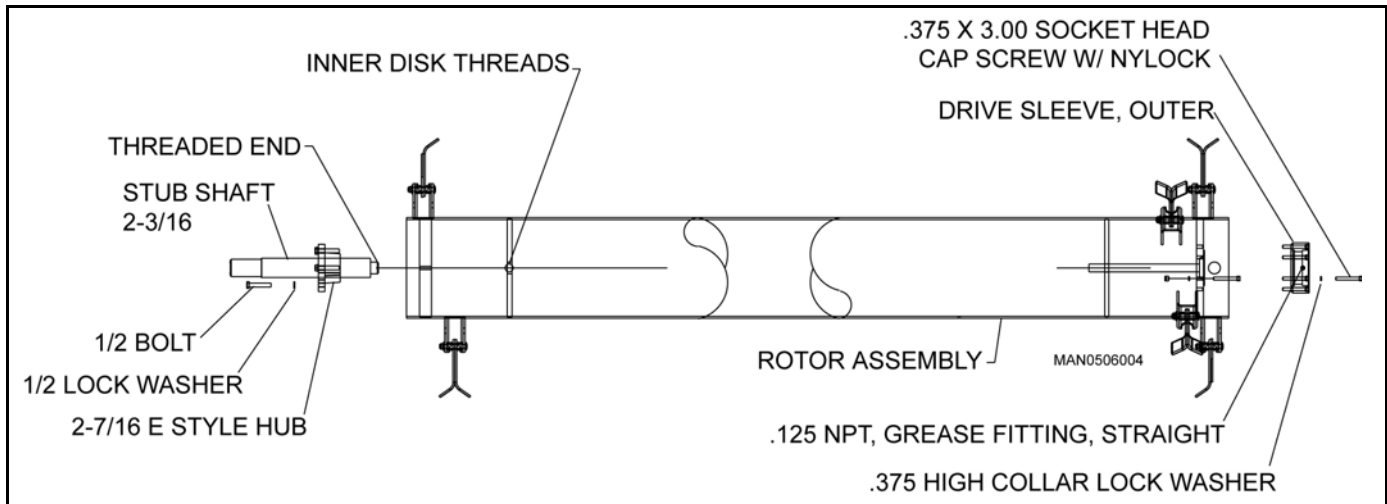

Figure 42. Stub Shaft Assembly
2. Remove three 1/2 x 2-1/2 hex bolts in taper lock hub and re-install bolts in three threaded holes (see Figure 42).